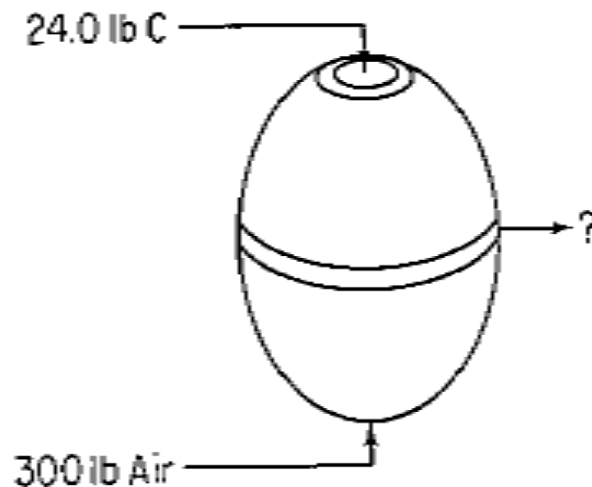

Figure E2.3
- (a) If 300 lb of air and 24.0 lb of carbon are fed to a reactor (see Fig. E2.3) at 600°F and after complete combustion no material remains in the reactor, how many pounds of carbon will have been removed? How many pounds of oxygen? How many pounds total?
This is a problem without any accumulation. The system is the reactor and will be treated as an open system as shown in Fig. E2.3. We want to make a total mass balance and CO_2 and O_2 mole balances.